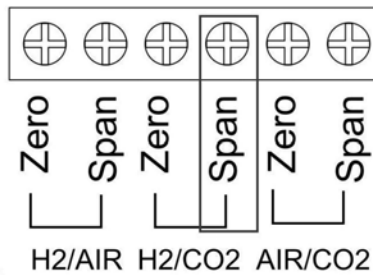

Figure 3-11: H₂/CO₂ Span Trimpot
- Use the H₂/CO₂ span trim pot to adjust the display to 100% ±0.1%. See Figure 3-11